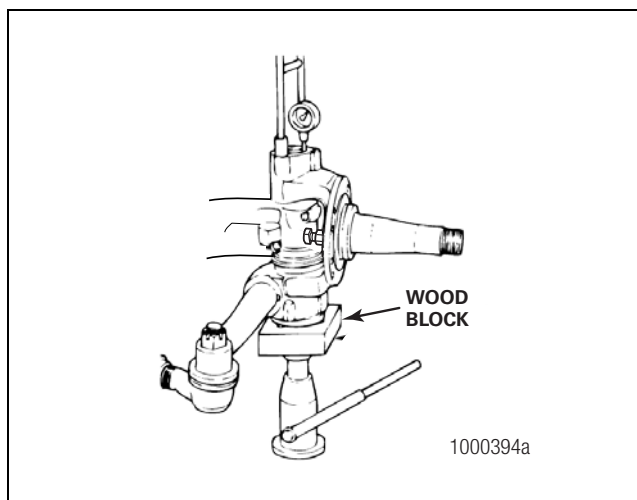

Figure 6.26
- Place a block of wood and a hydraulic jack under the bottom of the knuckle. Raise the knuckle until the pointer on the dial indicator stops. Figure 6.26.